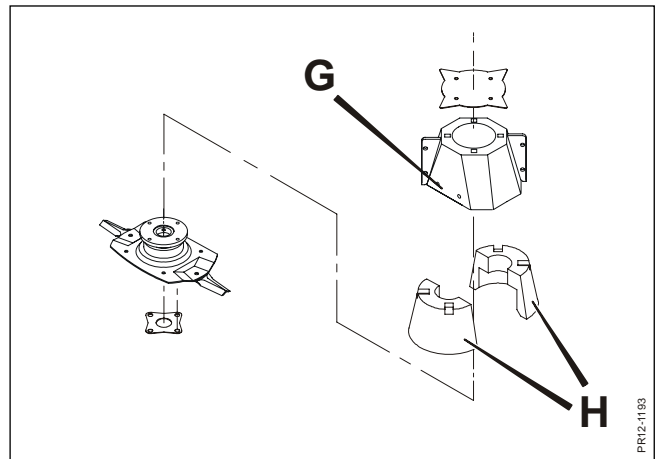

Fig. 5-7
**Fig. 5-7** The low flow caps **I** on the remaining discs should be straightened if they are deformed and, if necessary, be replaced by new ones. Dismount the flow caps and clean of earth, dust etc. 2 – 3 times during the season.